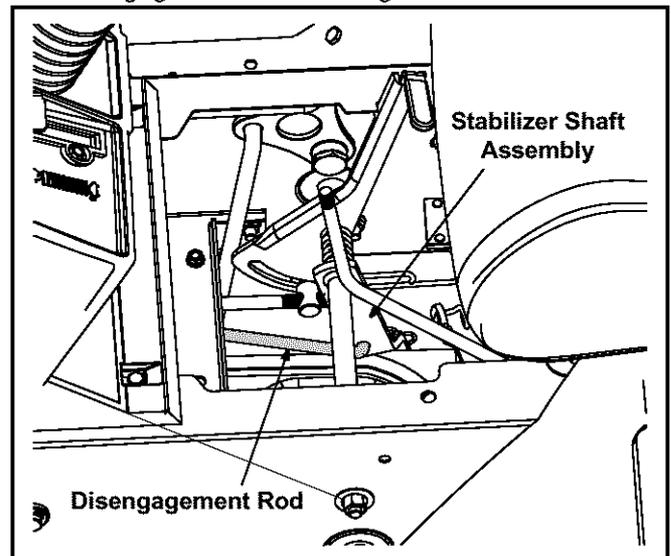

Figure 15
- Remove the shift cover panel and locate the deck disengagement rod. See Figure 15.